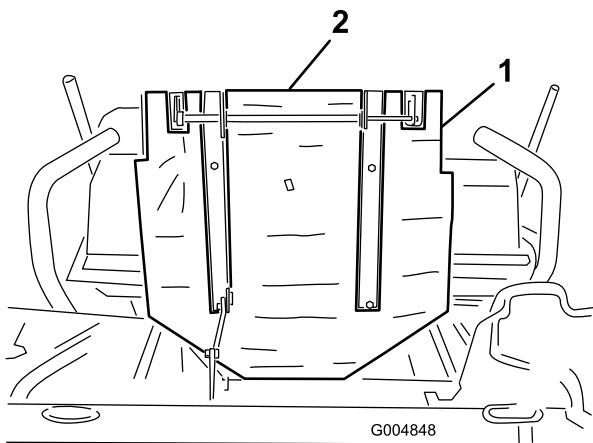

Figure 6
8. Remove the backing and affix the self-adhesive heat shield to the bottom of the seat mount plate (Figure 6).